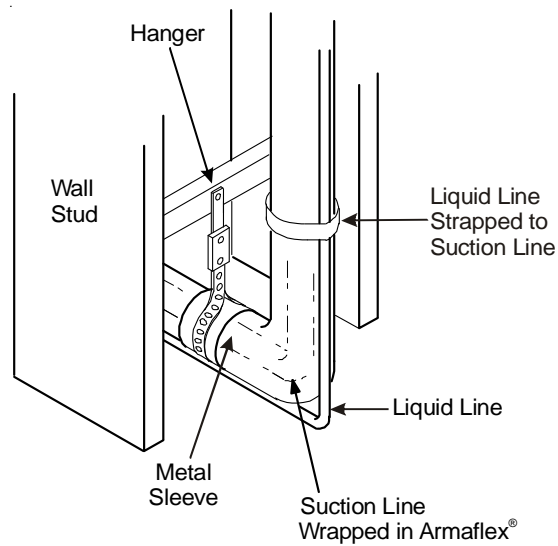

Figure 1-1.
10. **Vibration and Noise:** In long line applications, refrigerant tubing is highly prone to transmit noise and vibration to the adjoining structure. Use adequate vibration-isolating hardware when mounting line set to structural members. See Figures 1-1, 1-2 and 1-3 for example of proper mounting.